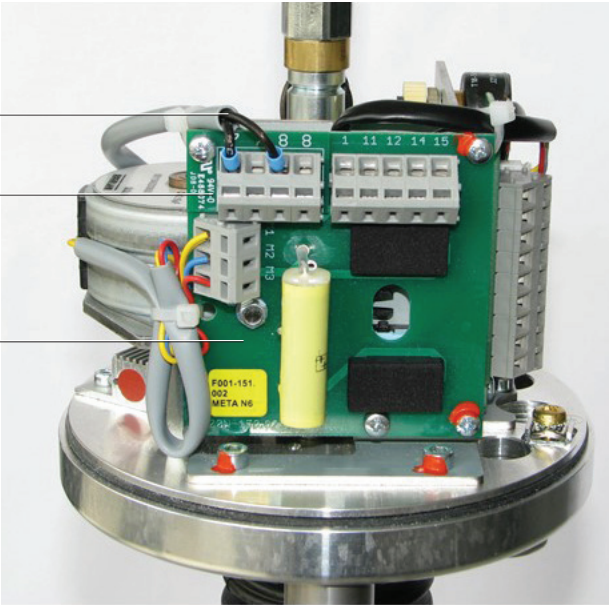

Fig. 14
- Refer to Figures 14 to 19 "Heater Installation 1 - 6 kN" for product orientation and fix the anti-condensation terminal board to the main board with the screws supplied